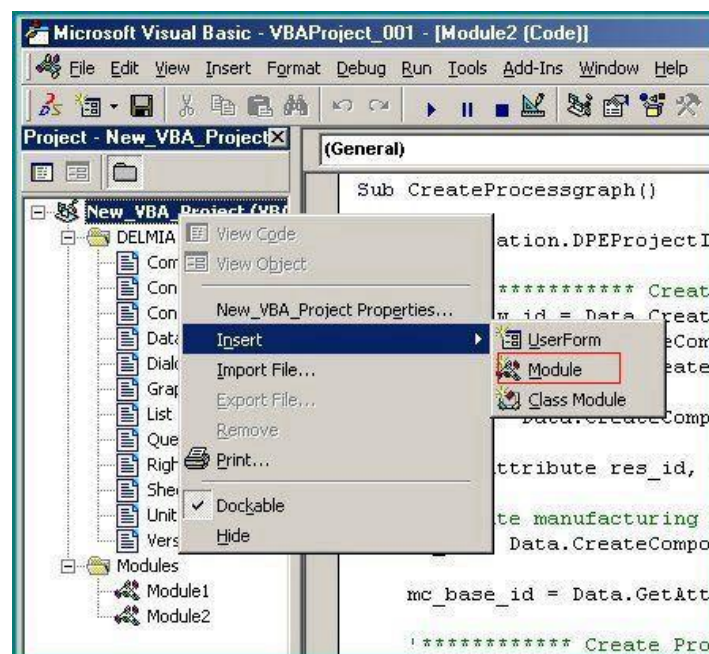

Figure 30: Opening the Script Editor
- 1) Select the project in the tree structure (a newly created project is shown in the picture, *Please refer to the Figure 30*.